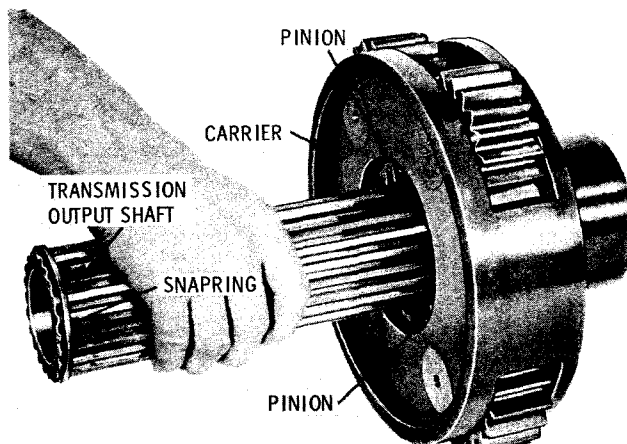

Fig. 7-25. Installing transmission output shaft
(9) Install the transmission output shaft with the snapping into the low-range planetary carrier (fig. 7-25).